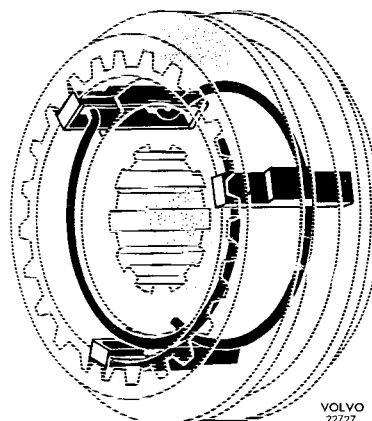
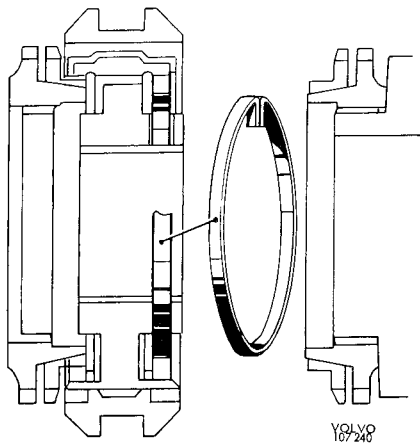

Fig. 4-21. Synchronizer assembly
Fig. 4-22. Resilient ring installation
1. Assemble 1st-2nd and 3rd-4th speed synchronizers. Fit the snap rings correctly, see Fig. 4-21. Place the resilient ring in the hub for 3rd - 4th synchronizers, see Fig. 4-22.
2. Center the resilient ring (Fig. 4-22) with the help of a small screwdriver. Place 3rd synchronizing cone in the synchronizing. Make sure that the flanges fit properly in the grooves in the synchronizing cone. Assemble the synchronizing and 3rd speed gear. Turn the gear wheel to make it easier for the resilient ring to be fitted on.